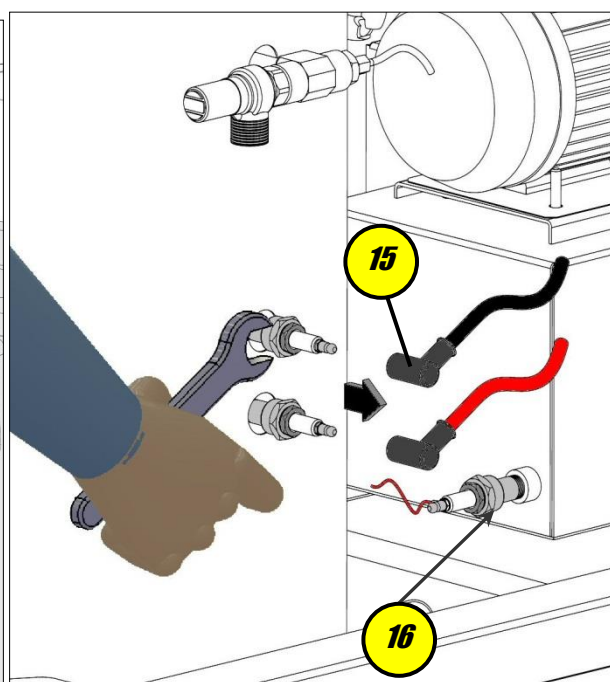

Figure 12
- c. Disconnect the sensors by removing the connectors 15 (fig.12) and unscrewing the nut 16 (fig.12)
- d. Unscrew the 3 sensors with a 22mm wrench (see fig.12)
- h.** Replace the connectors on the sensors, making sure the **black connector corresponds to the top sensor** and **the red connector to the bottom sensor**. (fig.12)